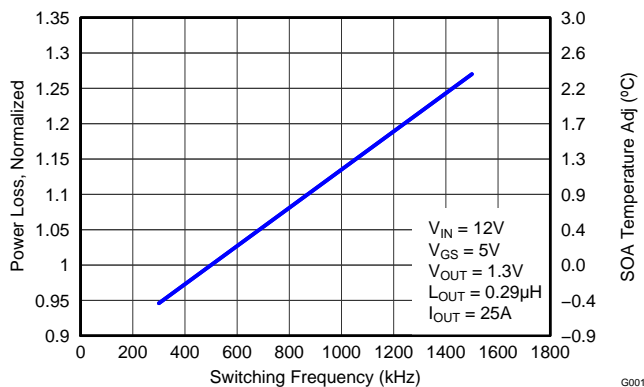

Figure 5. Normalized Power Loss vs Switching Frequency
- Normalized Power Loss for switching frequency ≈ 1.08 (Figure 5)
- SOA adjustment for switching frequency ≈ 0.7°C (Figure 5)
- The placement of the input capacitors relative to VIN and PGND pins of CSD87588N device should have the highest priority during the component placement routine. It is critical to minimize these node lengths. As such, ceramic input capacitors need to be placed as close as possible to the VIN and PGND pins (see Figure 5). The example in Figure 5 uses $1 \times 10\text{nF}$ 0402 25V and $4 \times 10\mu\text{F}$ 1206 25V ceramic capacitors (TDK Part # C3216X5R1C106KT or equivalent). Notice there are ceramic capacitors on both sides of the board with an appropriate amount of vias interconnecting both layers. In terms of priority of placement next to the Power Stage C21, C5, C8, C19, and C18 should follow in order.